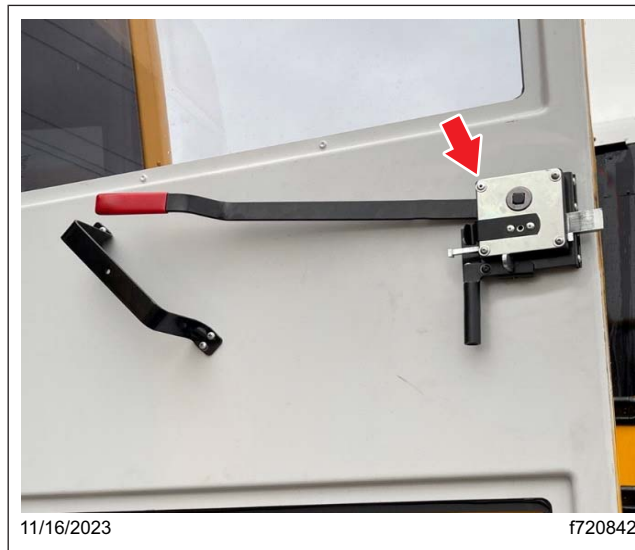

Fig. 1, Location of the Vandalock Door Latch
4. Locate the emergency exit door latch with a specific vandallock as shown in Fig. 1.